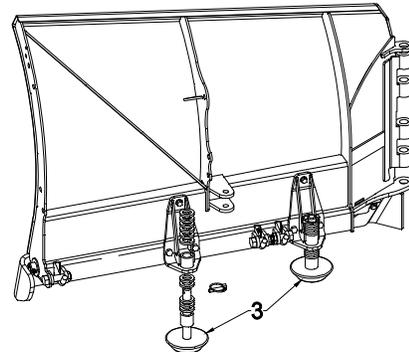

Figure 4. Plow Shoe Assembly G10827
- 10) Insert Plow Shoe (3) through the bottom of the Bolt-On Shoe Bracket (2). See Figure 4.
- 11) Place Washers on the shaft of Plow Shoe above or below Bolt-On Shoe Bracket to adjust the ride height of Plow Shoe (3).
- 12) Insert Quick Pin through the hole in Plow Shoe (3).